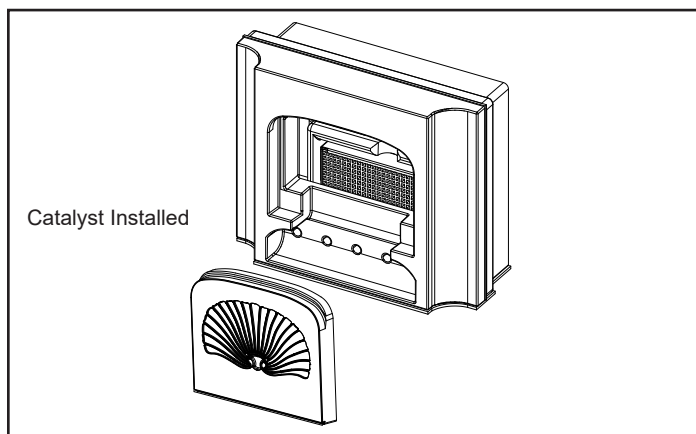

Figure 5.8 - Remove catalyst.
3. Install the catalyst by gently placing it into the cavity and straight down, (Figure 5.8). Place the catalyst where the catalyst's ceramic components will not be damaged.